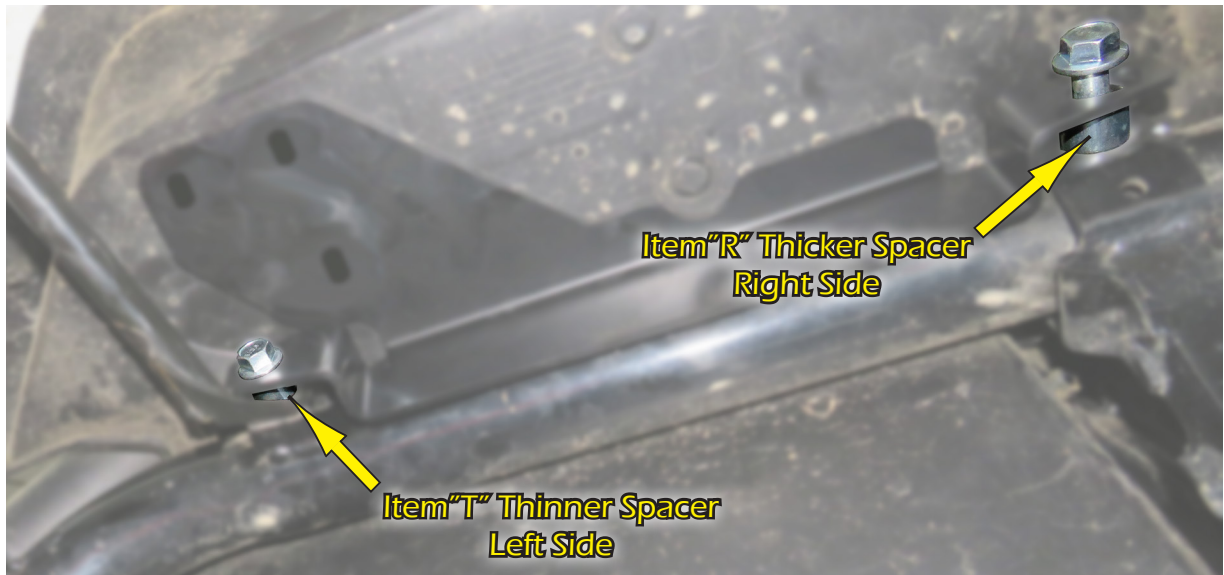

FIG.7
7. Then you will use the Thinner Spacer, **Item "T"** on the left side of the Bracket as shown in **Fig.7**. Leave a little loose until you get the (3) upper bolts in place, then tighten down.